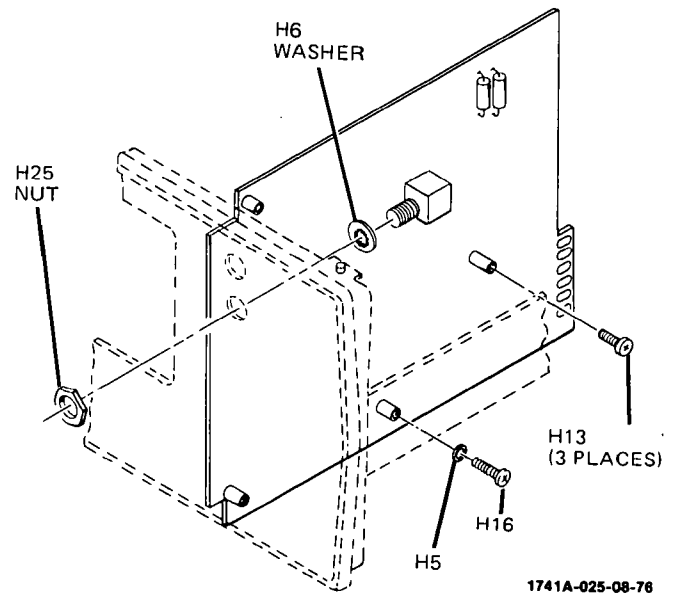

Figure 8-7. Location of A7 Attaching Screws
- f. Disconnect wires (93), (1), (6), and (97) from back of A7.
- g. Disconnect wire (7) from component side of A7.
- j. Remove four screws holding A7 to sheet metal (figure 8-7).
- c. Disconnect wire (7) from component side of A10.